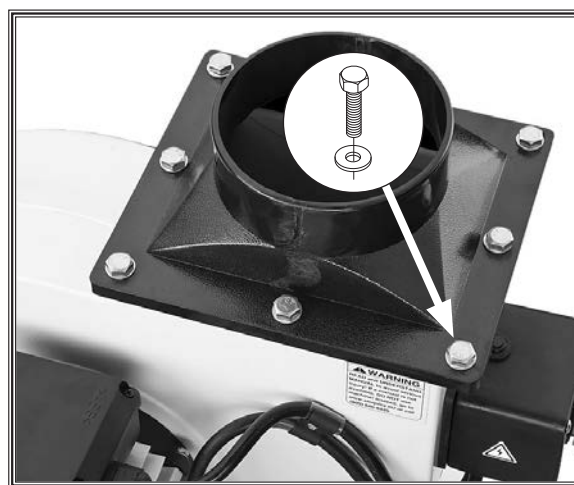

Figure 9. Outlet flange attached.
6. **Model W1666:** Place outlet flange on top of gasket and secure it with (8) M8-1.25 x 16 hex bolts and (8) 8mm flat washers (see Figure 9).